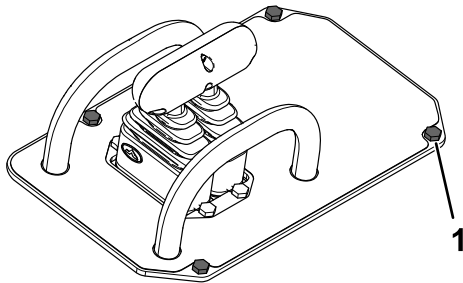

Figure 21
2. Remove and retain the 4 bolts and nuts securing the control panel cover to the machine (Figure 21).